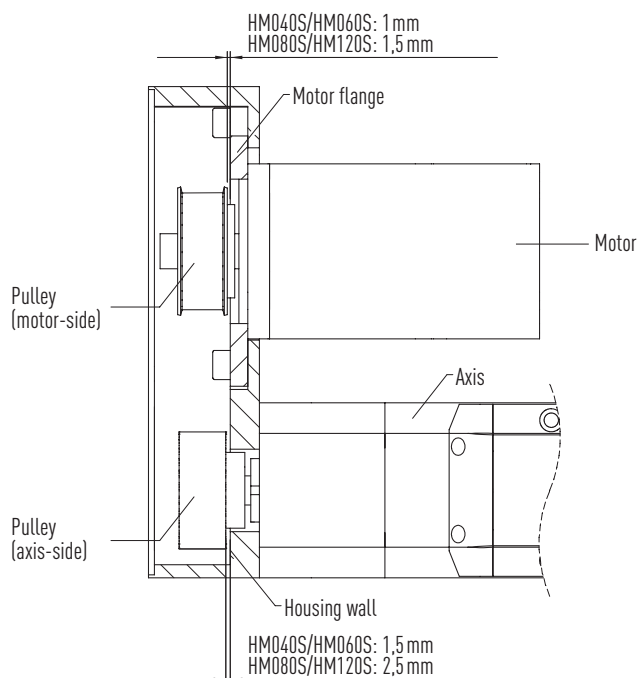

Fig. 7.46 Safety distances between the (motor-side) pulley's flanged wheel and motor flange and between (motor-side) pulley and housing
- ▶ Push the clamping set [7] for the pulley [6] to the stop on the axis side. Push the preassembled unit (clamping set and pulley) on the spindle axis' [8] shaft end. Use a feeler gauge to confirm an adequate safety distance (according to Fig. 7.46) between the pulley and the housing.
- ▶ Use the feeler gauge as depicted in Fig. 7.46 to confirm an adequate safety distance between the pulley's flanged wheel and the motor flange.